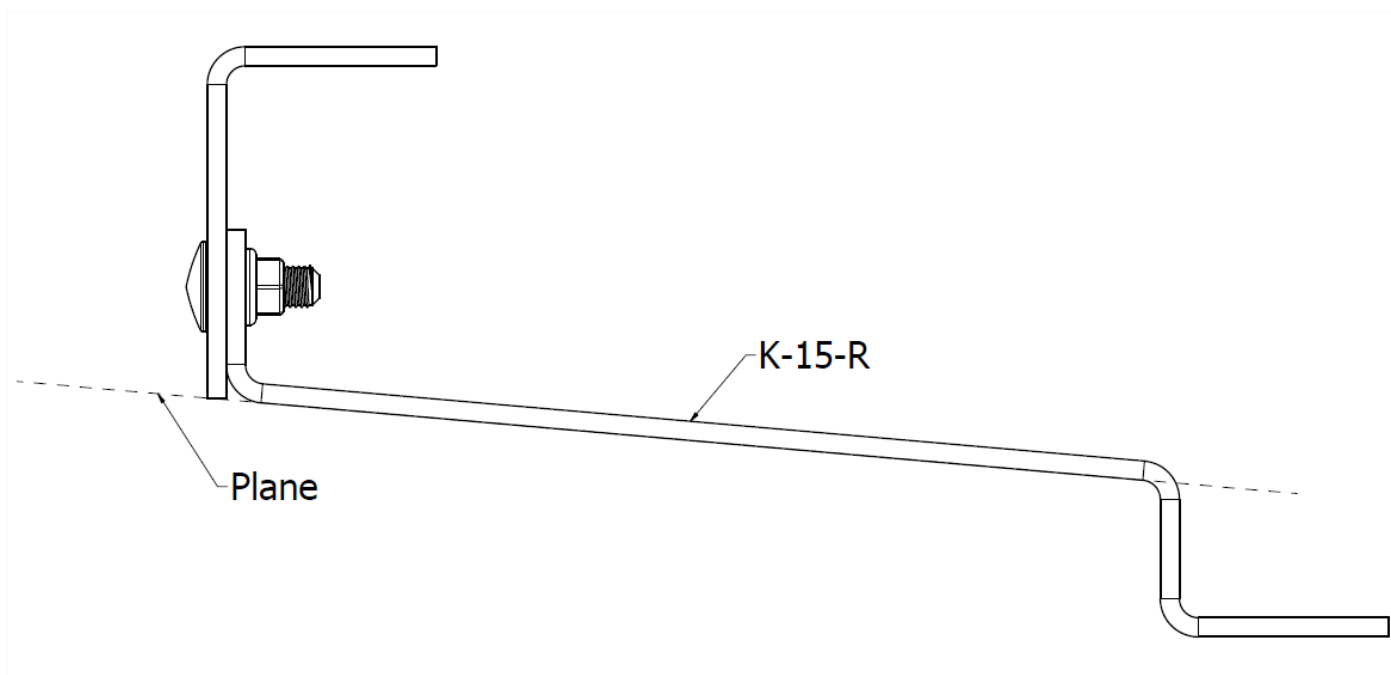

FIGURE 12 Hook positioned at minimum height
9. After mounting the K-15-R hook, ensure that the hook is in the correct position, i.e. the bracket **does not** protrude below the plane of the hook base- pre-tighten (fig.12,13.)